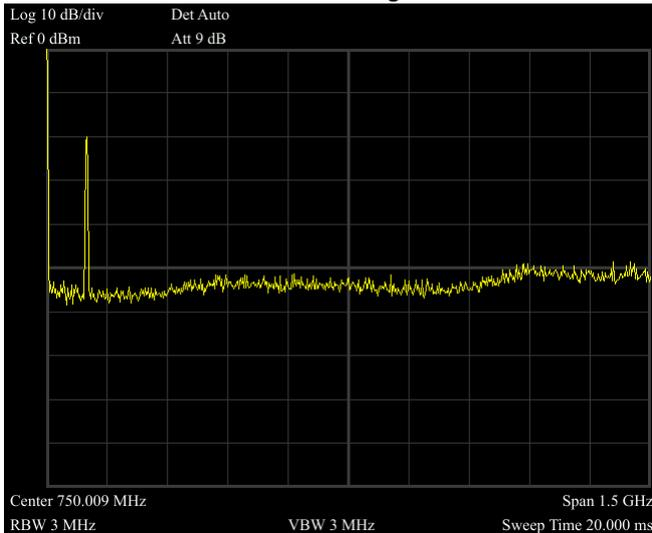

Figure 4-8 Full Span
- 1) Press "Preset" to reset the spectrum analyzer to factory settings. The Spectrum analyzer will display the spectrum from 9kHz to the maximum span width. The signal generated will display as a vertical line at 100MHz. Refer to Figure 4-8.